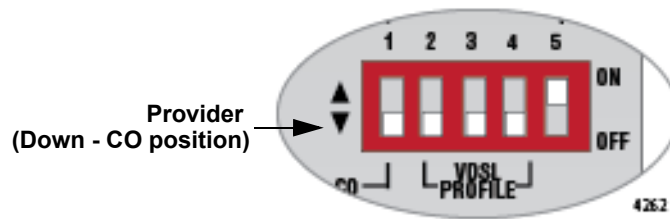

Figure 16. Provider Unit DIP Switch Position
1. Set DIP switch 1 to the Down (CO) position as shown in Figure 16. This configures the media converter as a Provider unit.